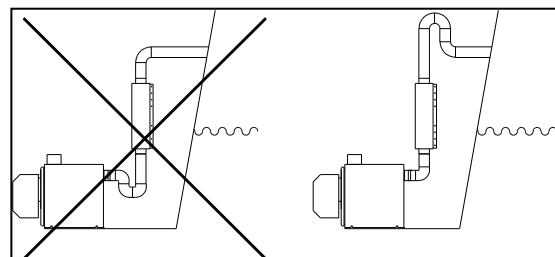

Fig. 4
- Make sure that the outlet is amply above the water level. If this is not possible use a curved construction (a swan neck as pictured on the right in figure 4).
**Warning:** When using a flue gas outlet longer than prescribed it is possible that condensation water may originate in the outlet. It is very important that the condensation water does not form a water trap with the flue duct becoming blocked (as pictured on the left in figure 4).
Using a swan neck (as pictured right in figure 4) prevents water from entering the flue duct from outside.
- Install a proper storm cowl on top of the chimney (this must stop rain from entering) (figure 4).